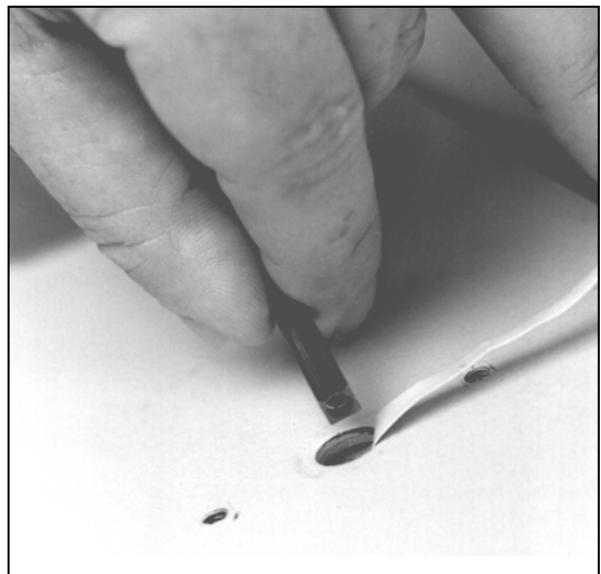

Fig. 3 - Insert screw hole side of spindle into spindle hole
8. Insert the end of the spindle with the screw hole into the lock case assembly until the spindle is properly seated. The grooved side of the spindle should be oriented so that the grooves in the spindle align with the grooves in the drive cam. (Figure 3).